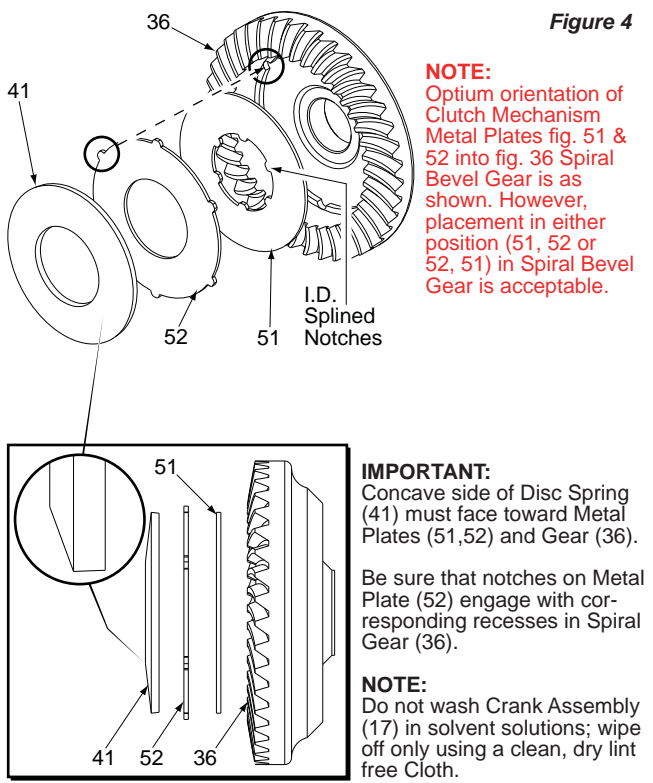

Figure 4
2. Position assembled Spindle/Crank Assembly (17, 39, 8, 46, 53, 68, 37 & 69) into Left Gearcase. (Spindle components should be pre-lubricated with a light coating of grease prior to reassembly). *It is also beneficial to have the Barrel Cam (31) and Extension Spring (44) installed in Left Gearcase (29).* Once the Spindle/Crank Assembly is in the Left Gearcase, position/seat the Front Bushing Carrier (58) over Pivot Pin (6) that's pressed into Left Gearcase Assembly. Secure Orbit Slot (53) to the Left Gearcase Assembly using the three Screws (10) removed in disassembly.
3. Turn Crankshaft/Spindle Assembly by hand, applying a downward pressure until the splines located on the bottom of the Crank Assembly Drive Hub (54) drop down and interlock with the splined notches in the I.D. of Metal Plate (51). Once the two pieces are interlocked together, hold the assembly down tight and turn Gearcase Assembly (29) over to enable the Left Handed Drive Bolt (5) and Spacer (47) to be slid through Ball Bearing (2). (Before installing Drive Hub Bolt (5) be sure to apply Blue Loctite® to bolt threads). Place the 3/16" x 1-1/2" long steel rod used in disassembly, back through the Counter Balance of Crankshaft Assembly (17) and slowly turn Left Handed Drive Bolt (5) in a counter-clockwise direction until 3/16" long steel rod rests against Connecting Rod (59). Before tightening Drive Hub Bolt (5), make sure the raised notches located on the O.D. of Metal Plate (52) are engaged with corresponding recess in Spiral Bevel Gear (36), see Figure 4. Using an inch pound torque wrench and a 3/16" hex key, torque Drive Hub Bolt (5) to 190 in./lbs. or bolt can be tightened using a foot pound torque wrench to 15-16 ft./lbs.